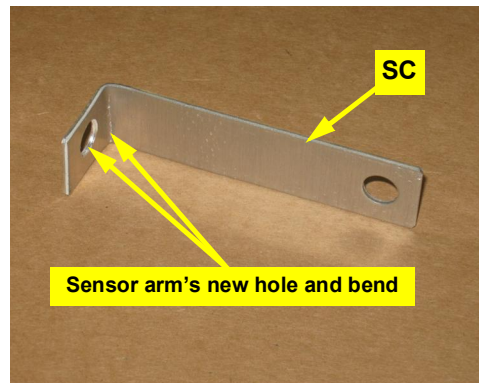

Figure 1c: Sensor arm with new hole and bend
- c. Drill a 3/8" hole in the sensor arm SC at the opposite end from the pre-drilled 5/16" hole. Put a 90° bend in the end of the sensor arm with the 3/8" hole (Figure 1c).